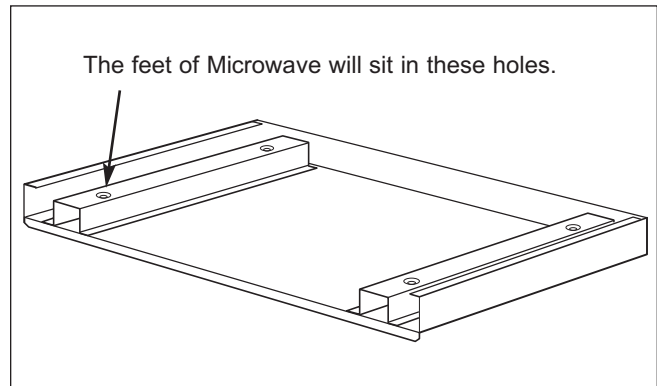

Figure 1. Bottom Duct Assembly
- A. Lining up feet of microwave with holes in bottom duct assembly, place microwave on assembly (See Figure 1).